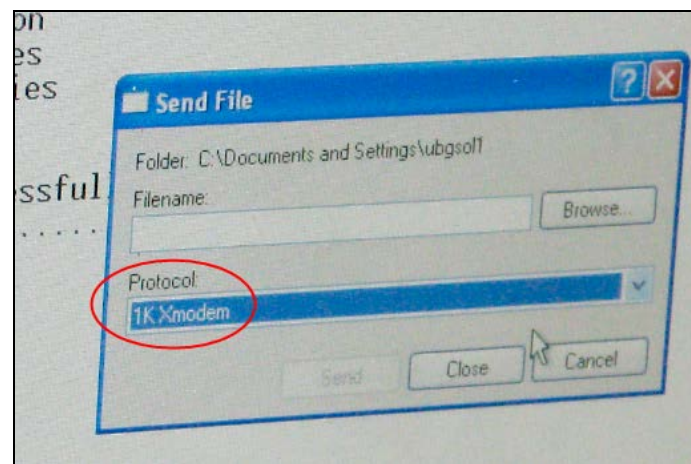

Fig.22
7. In the Send File box, make sure that the protocol is set to “**1K Xmodem**” (Fig.22).